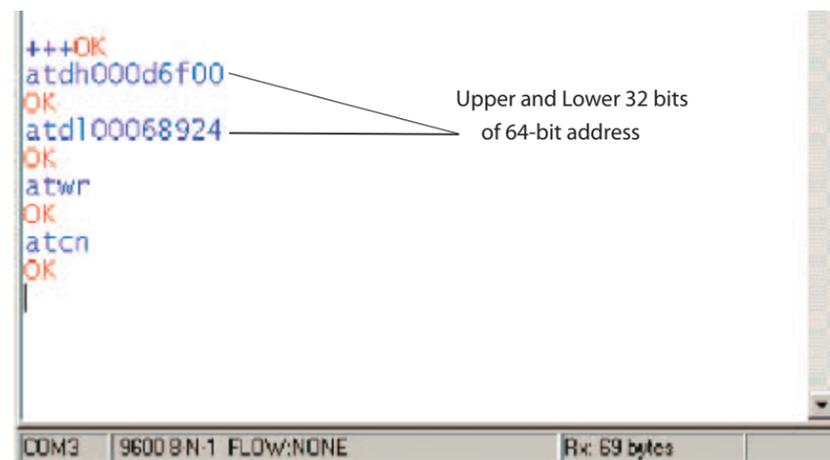

Figure 3
2. Use the ATDH and ATDL commands to set the destination address high and the destination address low of the COORDINATOR to match the 64-bit address of the particular ROUTER/END DEVICE with which you wish to communicate. Use ATDH for the upper 32 bits and ATDL for the lower 32 bits of the 64-bit address. [Figure 3] The “Modem Configuration” tab can be used to do this as well.